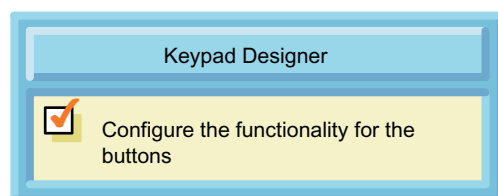

Figure 3-10 Defining the Properties for the Button
- Select the function for the button and provide a valid function name. Click OK. See Figure 3-10 for an example of the TD 200C button functions.